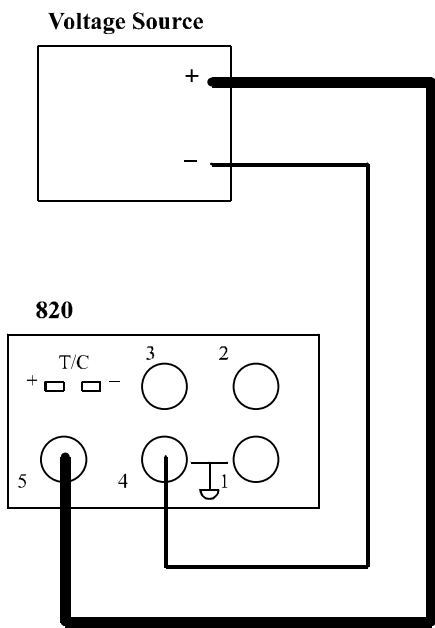

FIGURE 9
3. Hi Calibration: Connect a Voltage Source (Set to 200V) to terminals 4 and 5 of the 820 (See figure 9). Press *STORE*; make sure you hear the beep, then press *SOURCE/READ*.
3. Hi Calibration: Connect an AC Voltage Source (Set to 240V 60Hz) to terminals 4 and 5 of the 820(See figure 9). Press *STORE*; make sure you hear the beep, then press *SOURCE/READ*.